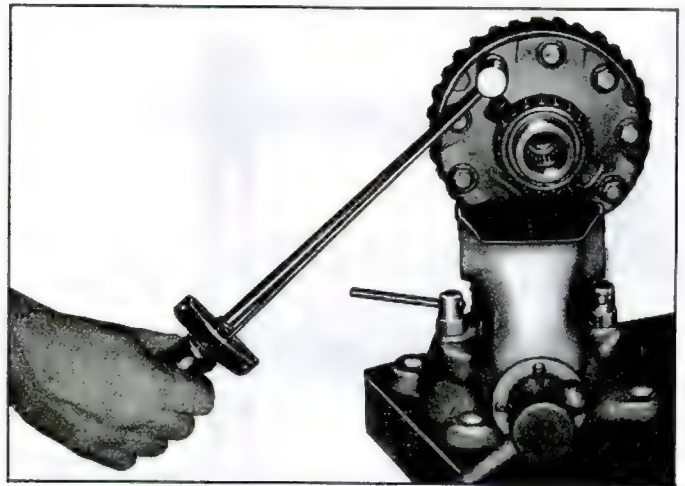

Fig. 35—Measuring Ring Gear Bolt Torque
5. Install two guide pins (improved) in ring gear and tap ring gear with a plastic hammer as required to seat ring gear. Remove guide pins and install bolts and lock washers. Then tighten all bolts to specifications in an alternate pattern (fig. 35).